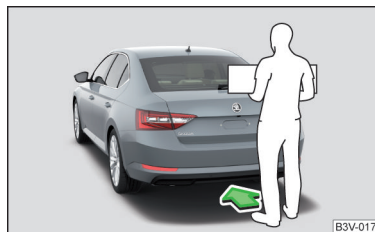

Fig. 39
► To **open/close**, move one foot in the sensor area below the rear bumper quickly in the direction of the arrow » Fig. 39.